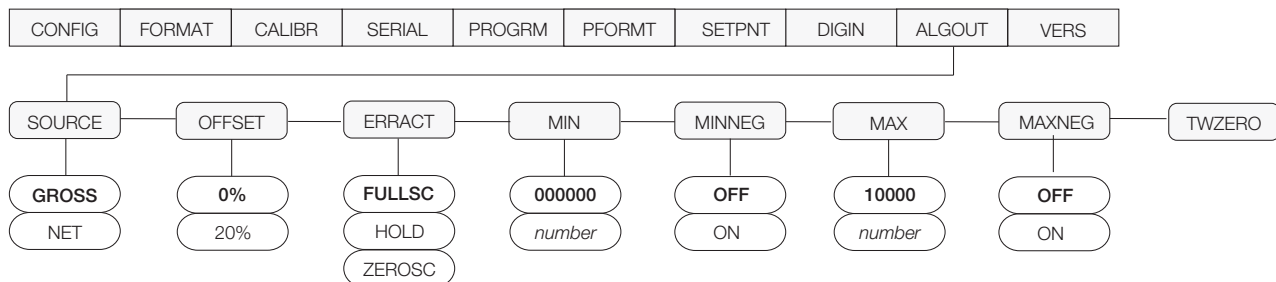

Figure 7-5. Analog Output Menu
1. Enter setup mode and go to the ALGOUT menu (see Figure 7-5).